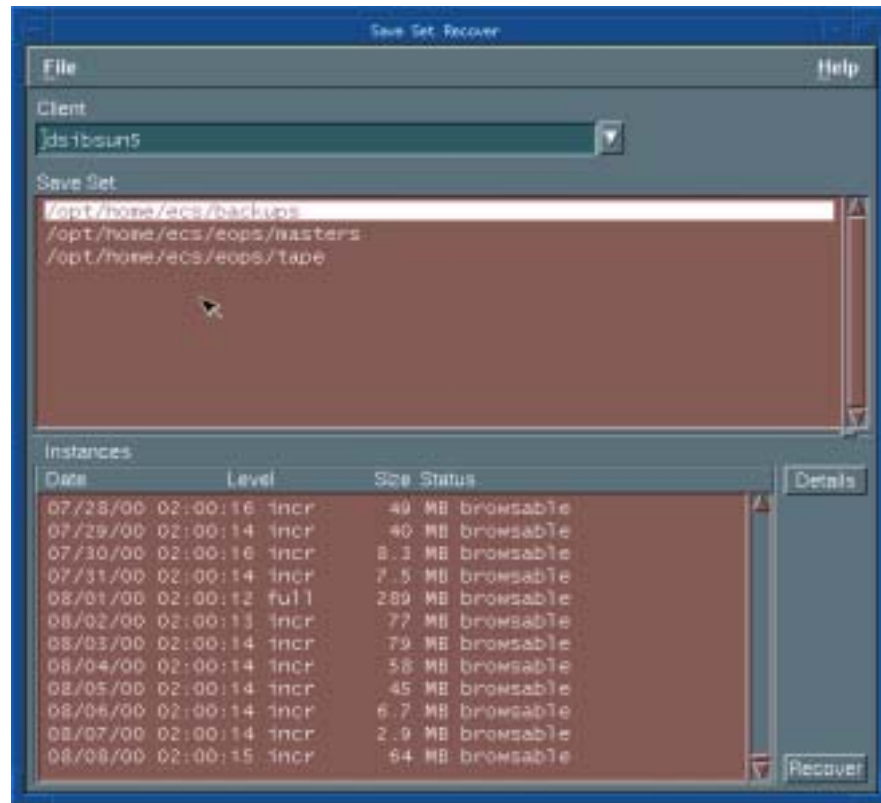

Figure 17.21 – Save Set Recover Screen
9. A screen similar to Figure 17.21 will display